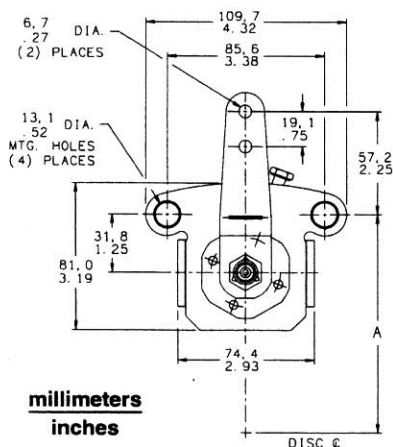

FIGURE 1
1. Using Figure 1 and Table 2, determine "A" dimension and locate caliper mounting holes.